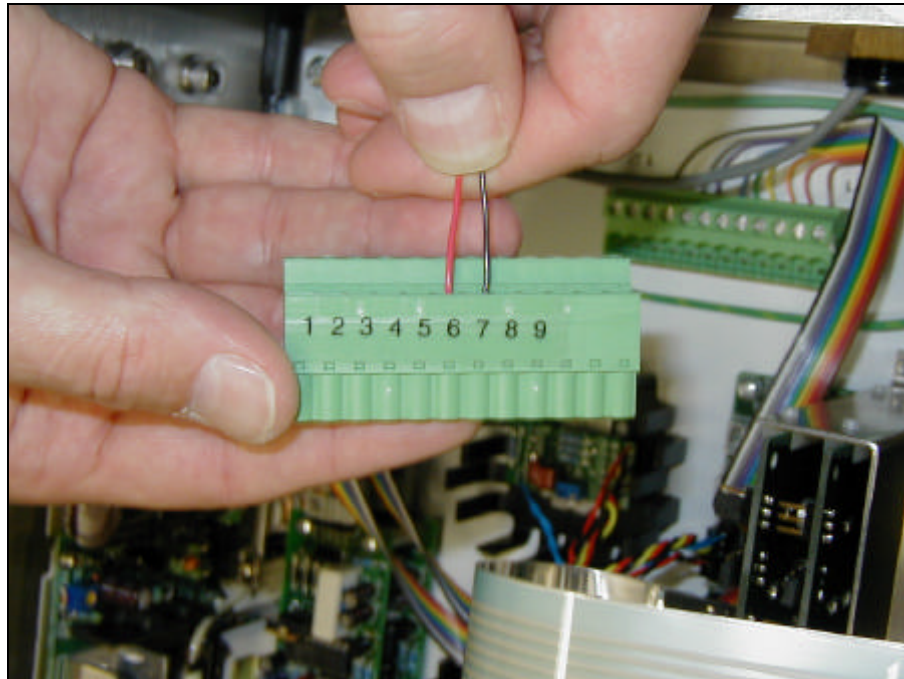

Figure 7 Insert signal wires into terminals as shown in Table 2
7. Connect the output wires to the desired terminals. See figure 7.